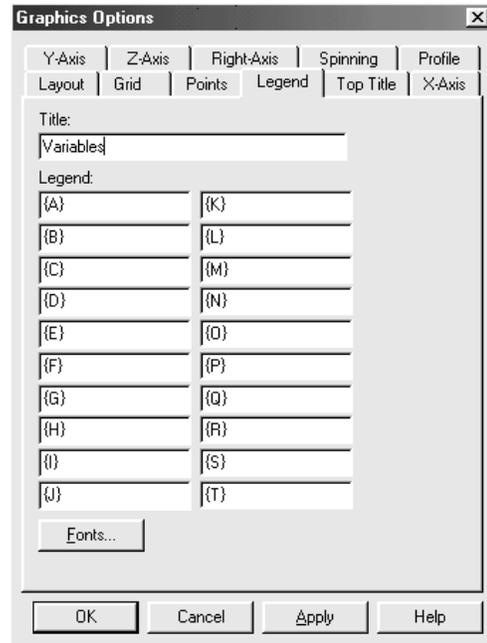

Figure 5-7. Legend Tab Page
3. Click the left button, then the right on Graphics Options on the pop-up menu to display the Graphics Options dialog box opened to the Legend tab page (see Figure 5-7).